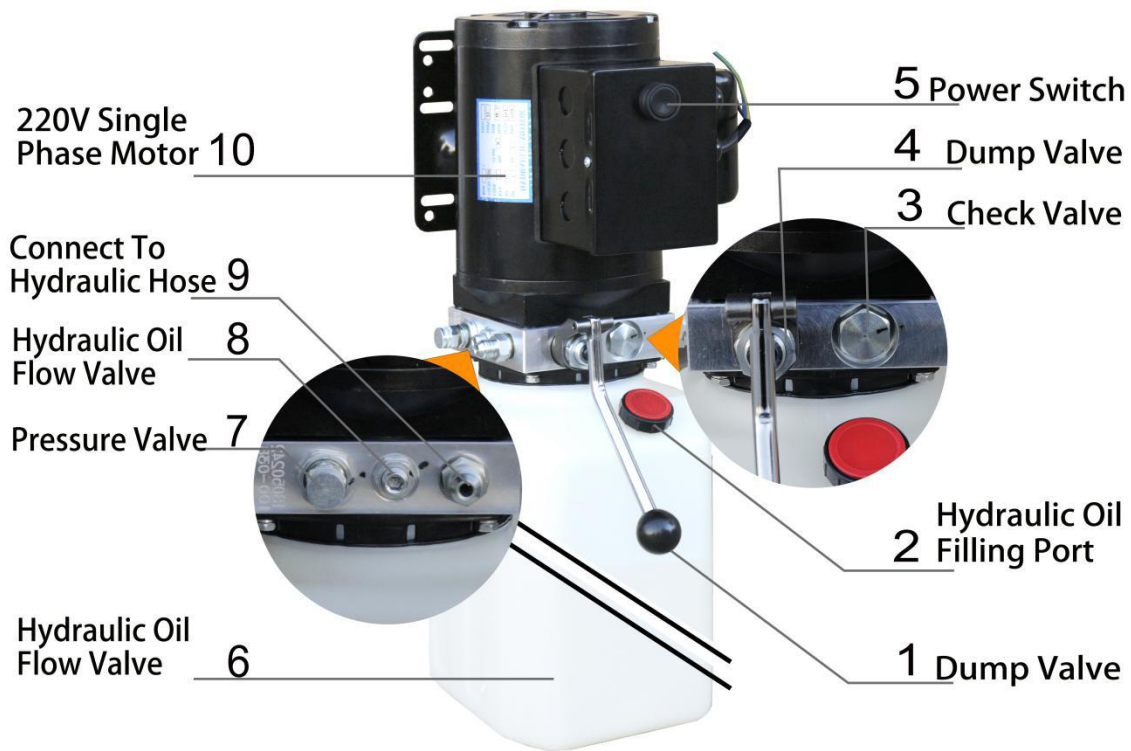

Fig 25 Power Unit Diagram
4. Power unit testing (Fig 25)